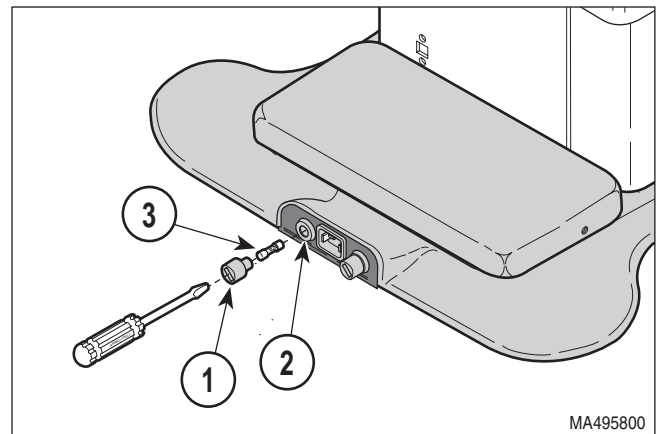

Figure 4-58. Fuse Removal / Installation
- (1) Using a flat-bladed screwdriver, press in on fuse cap (1, Figure 4-58) and rotate counter-clockwise 1/4 turn; then pull fuse cap from fuse holder (2).
- (2) Remove fuse (3) from fuse cap (1).